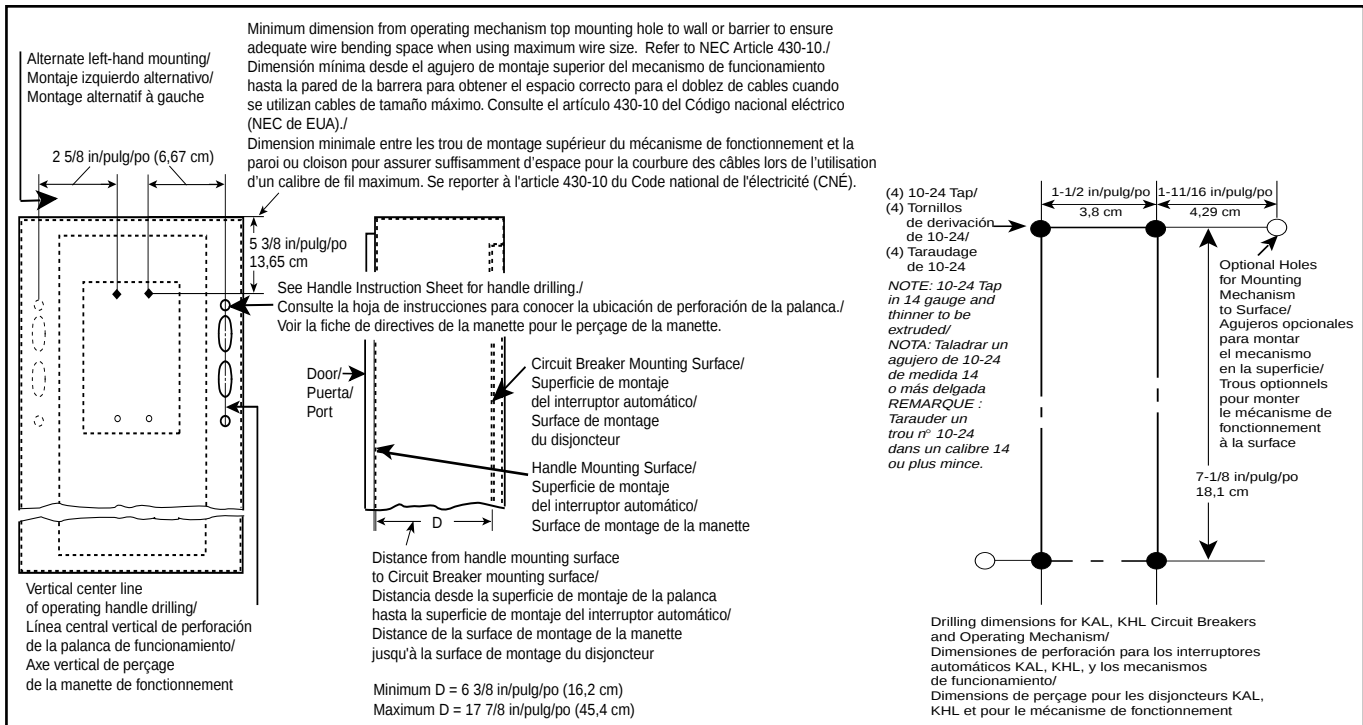

Figure 2 / Figura 2 / Figure 2 Location and Drilling of Panel Mounting Holes /
2. See Figure 2 on page 5 for location and drilling of panel mounting holes.
3. Cut operating rod (item 1) to length L where $L = D - 2 \frac{1}{2}$ in (6.35 cm).
4. Thread operating rod into drive pin (item 2) TEN full turns.
5. Attach adhesive backed vinyl mask (item 3) over "ON-OFF" markings on circuit breaker.
6. Slide liner (item 4) into the operating mechanism. Align liner with mounting holes. **Make sure the liner overhangs the top of the operating mechanism 1 3/4 in (4.44 cm); if it does not, the liner is upside down and must be repositioned.** The liner must wrap around the circuit breaker.
2. Voir la figure 2 à la page 5, pour l'emplacement et le perçage des trous de montage du panneau.